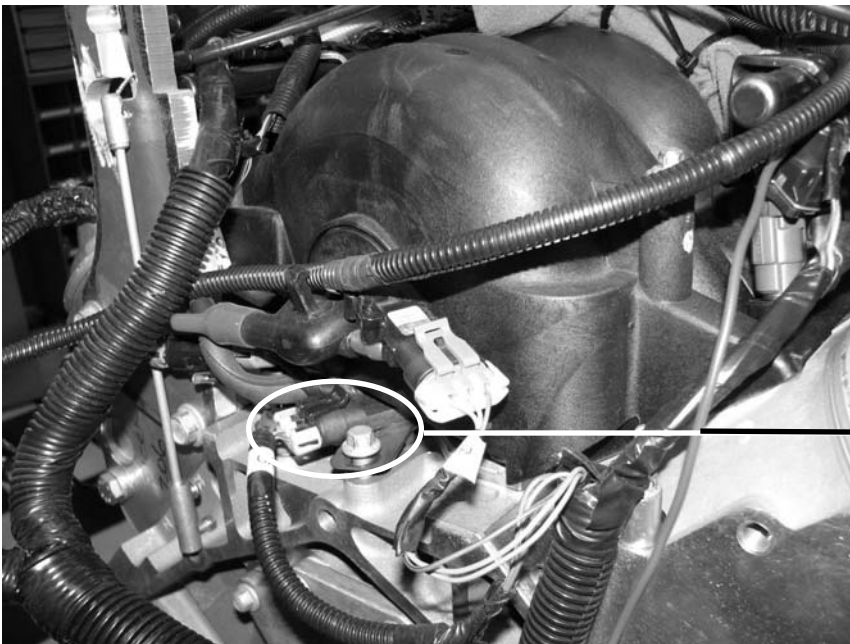

FIGURE 2
- All rocker arms must be loosened or removed prior to removing the camshaft. On Gen III engines the bolt securing the cam sensor in the rear of the block must also be loosened and the sensor lifted. Failure to do so may result in damage to the sensor. (See Figure 2). Gen IV engines will need to have the cam position sensor removed from the access plate or unclipped from the wiring harness.